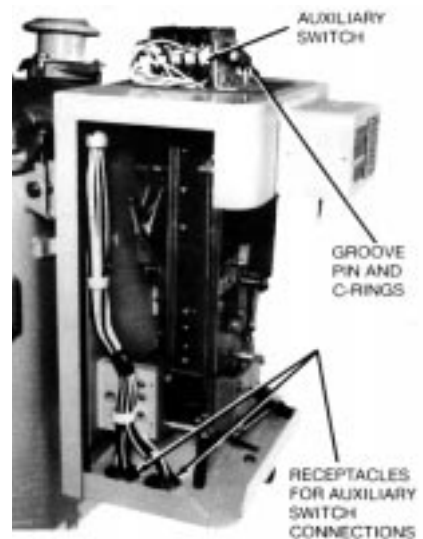

Figure 19.
2. Detach the switch from the switch link by removing the groove pin and C-rings (see Figure 19).